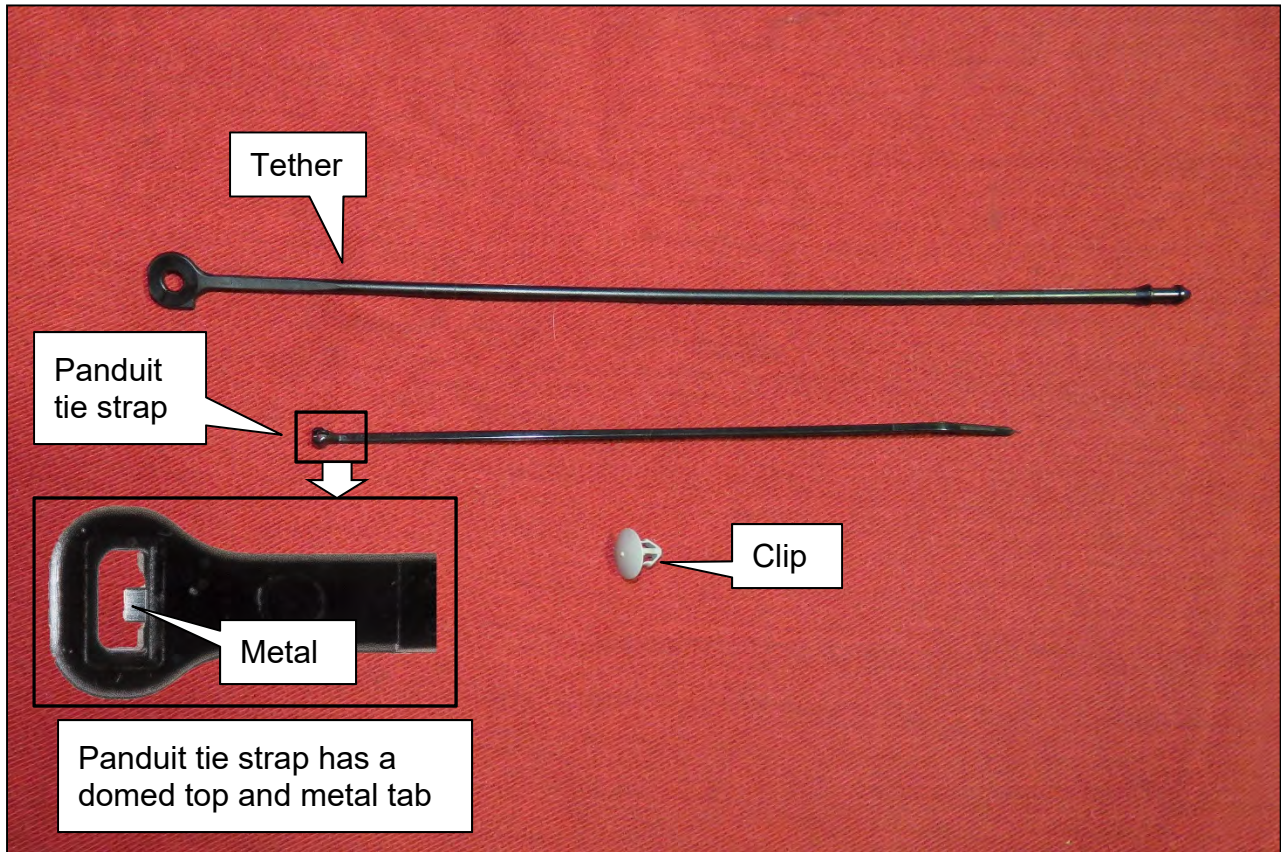

Figure 8
- **ONLY** use the Panduit tie strap listed in the **PARTS INFORMATION** on the last page as it has a metal tab that is required for this repair (see Figure 8 on page 5).